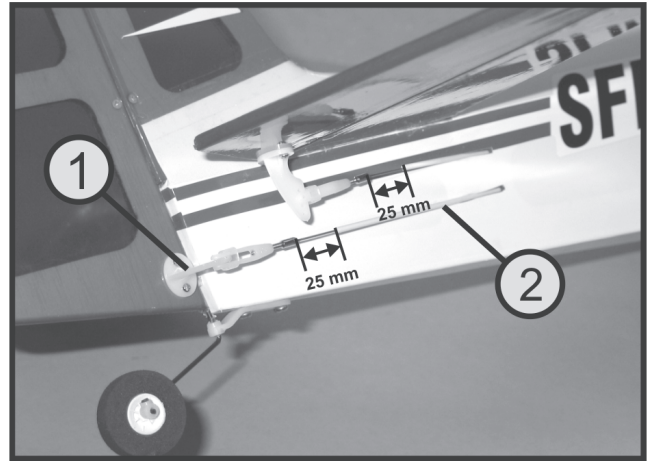

Figure 16
Move the Bowden tube sleeves (1) until the distance to the solder sleeves is 25 mm (see figure 16).